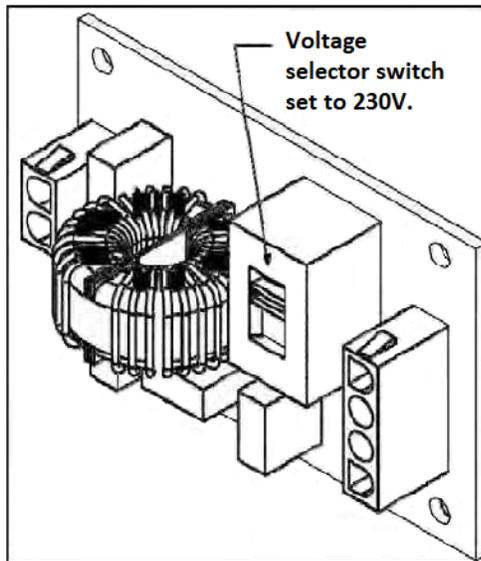

Figure 3. Voltage Selector Switch
3. **Toggle the voltage selector switch from 115V to 230V. Replace the High Voltage cover and secure it. See Figure 3.**